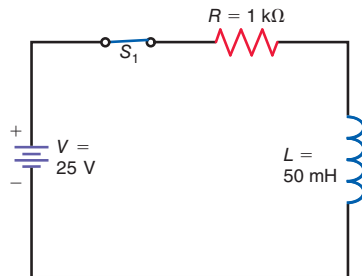

Figure 21-11
- What is the time constant of the circuit in Fig. 21-11 with S_1 closed?
- With S_1 closed in Fig. 21-11, what is the eventual steady-state value of current?
- In Fig. 21-11, how long does it take the current, I , to reach its steady-state value after S_1 is closed?
- In Fig. 21-11, how much is the resistor voltage at the very first instant ($t = 0 \text{ s}$) S_1 is closed?
- In Fig. 21-11, what is the value of the resistor voltage exactly one time constant after S_1 is closed?
- If a $2\text{-M}\Omega$ resistor is placed across the switch, S_1 , in Fig. 21-11, how much is the peak inductor voltage, V_L , when S_1 is opened?
- In Fig. 21-11, what is the value of the current $35 \mu\text{s}$ after S_1 is closed?
- With S_1 closed in Fig. 21-11, the length of one time constant could be increased by
- In Fig. 21-11, what is the value of the inductor voltage five time constants after S_1 is closed?
- In Fig. 21-11, how much is the resistor voltage exactly $100 \mu\text{s}$ after S_1 is closed?